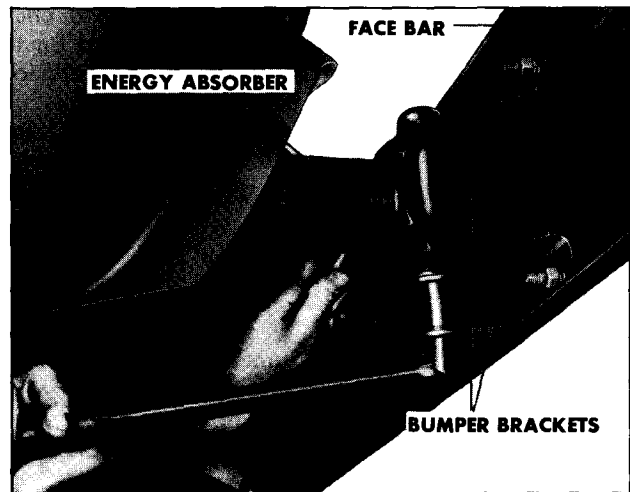

Figure 6—Removing Rear Bumper Bracket Thru-Bolts
1. Remove bumper by removing both bumper bracket thru bolts as shown in Figure 6.